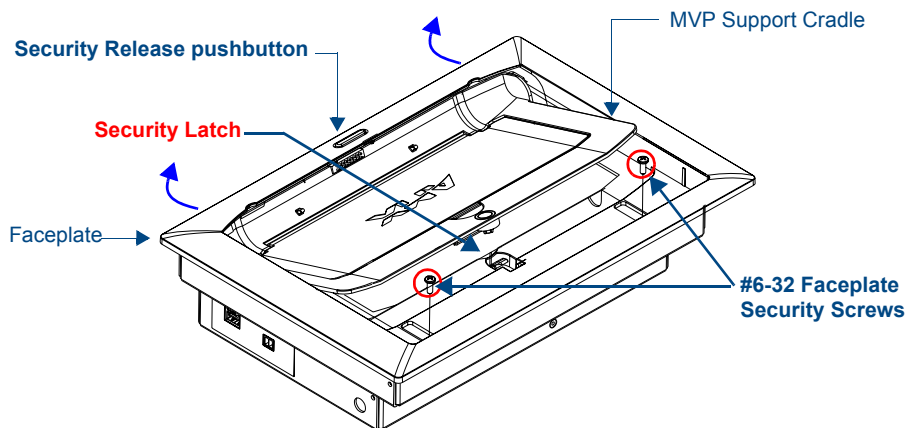

FIG. 6 Faceplate screw removal
5. Remove the two #6-32 Faceplate Security Screws from the top rim of the faceplate, using a grounded Phillips-head screwdriver (FIG. 6).